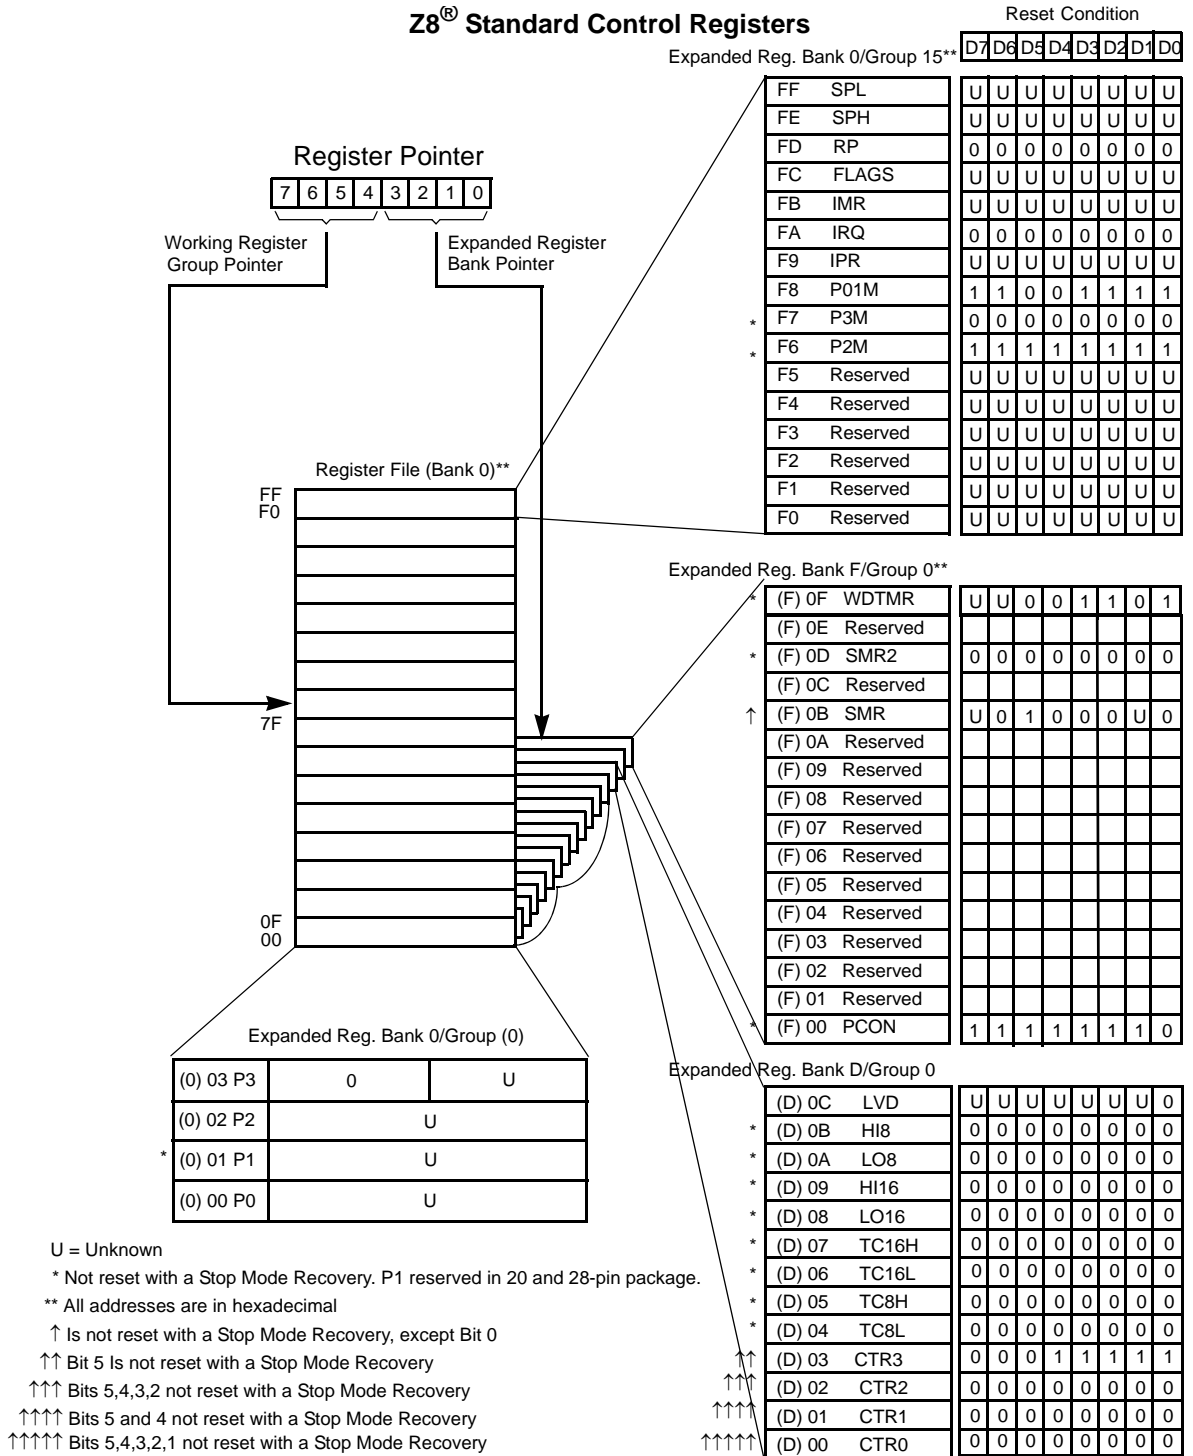

Figure 12. Expanded Register File Architecture
► **Note:** An expanded register bank is also referred to as an expanded register group (see Figure 12 on page 23).
Example: Crimzon ZLR32300 (see Figure 12 on page 23).